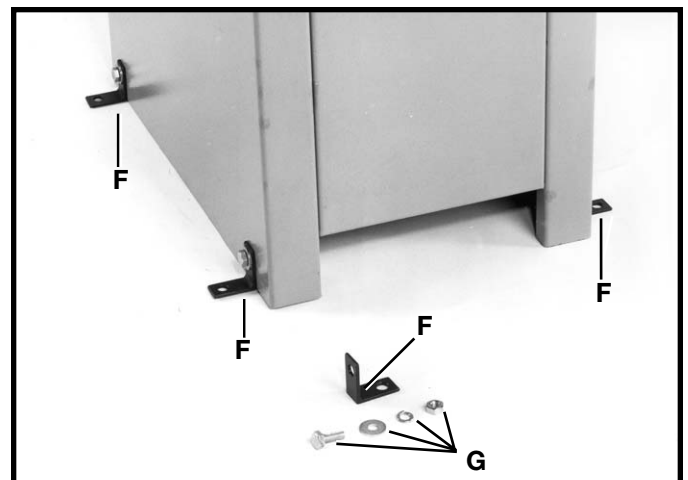

Fig. 4
3. Assemble mounting leg (F) Fig. 4, to each corner of the stand as shown, with 4 one inch-long screws, flat washers, lockwashers and hex nuts (G).